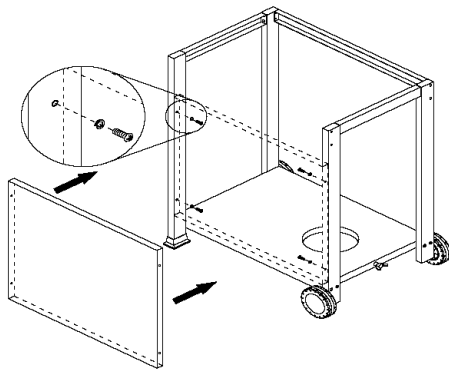

Figure 5
Assemble front panel to front cart leg by using (4) 1/4 x 3/8" Phillips head screws with (4) 1/4" lock washers (Fig.5)